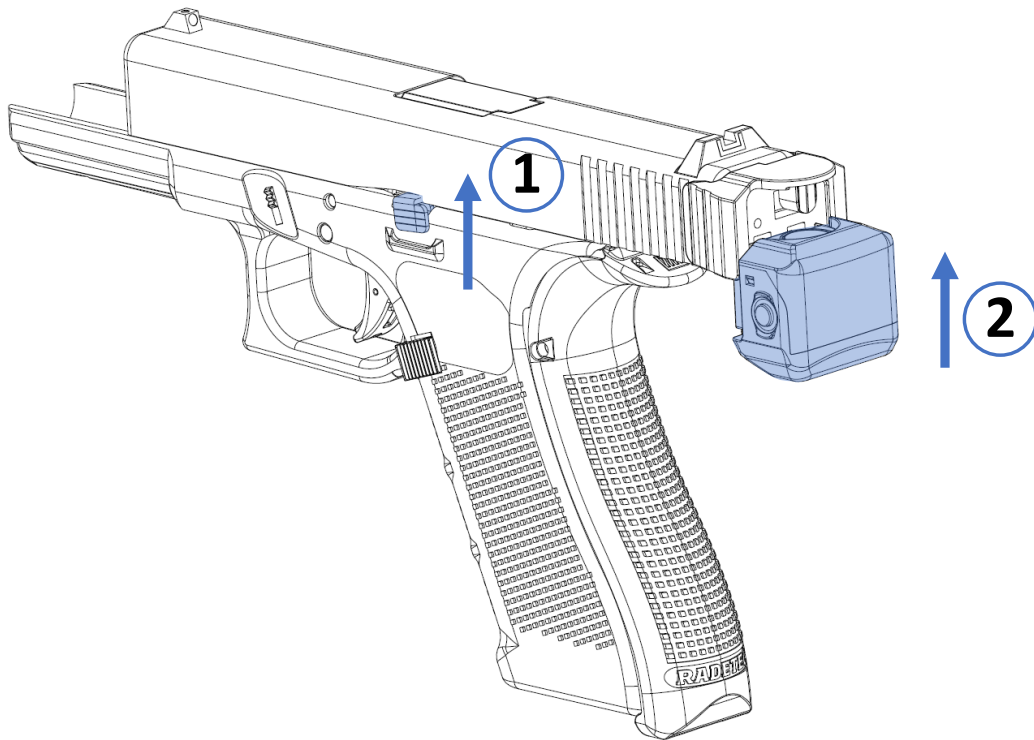

Figure 74: 1) Lifting direction of the slide stop lever.
3. Engaging the Slide Lock Lever and mount the RISC Display on the RISCpro slide plate guides (Figure 74).